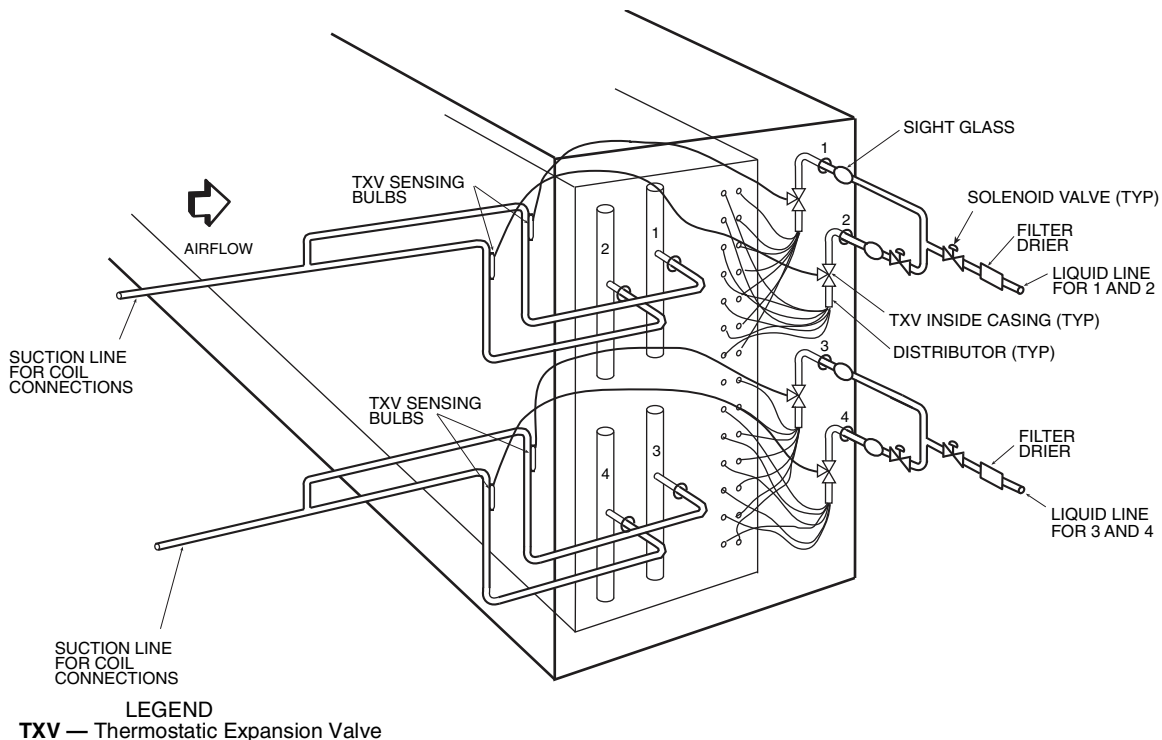

Fig. 110 — Face-Split Coil Manifolding (Typical)
Manifolding for 2-Face Splits — Refer to Fig. 110 and externally manifold as follows:
Manifolding for 2-Face Splits — Refer to Fig. 110 for coils with less than 34 tubes in face. Externally manifold as follows:
1. Coils with less than 34 tubes: Connect the 4 expansion valves to the 4 distributors on each coil and connect the 4 suction lines to the 15-diameter-long risers as outlined in previous piping instructions. Refer to Fig. 110.